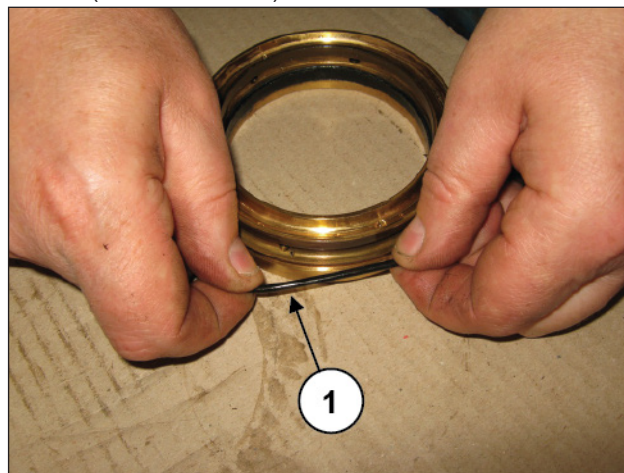
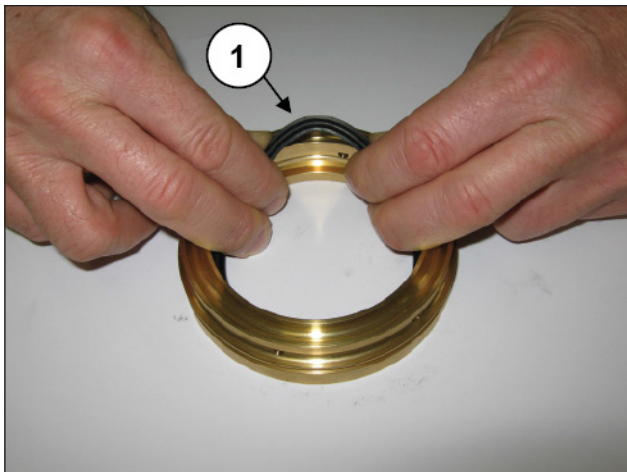

Fig. 220
Fig. 221
Insert the O-ring (pos. ①, Fig. 220) and the low pressure seal in the seal support (pos. ①, Fig. 221) paying attention to the mounting direction which requires that the sealing lip be set forward (towards the head).